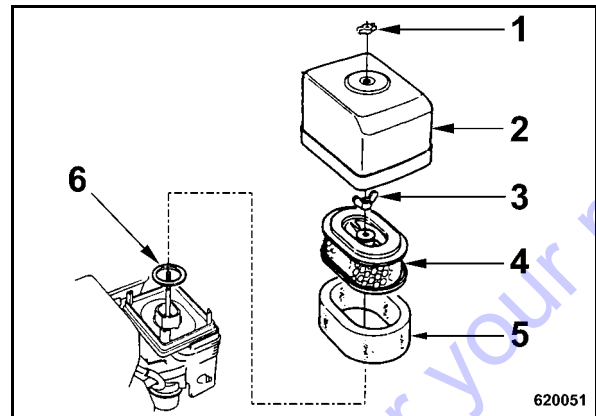

Fig. 48
- Pull the foam rubber element (5) (Fig. 48) over the paper element (4).
- Insert the air filter correctly and tighten it with the wing nut (3).
- Reassemble the housing cover (2) with the wing nut (1).